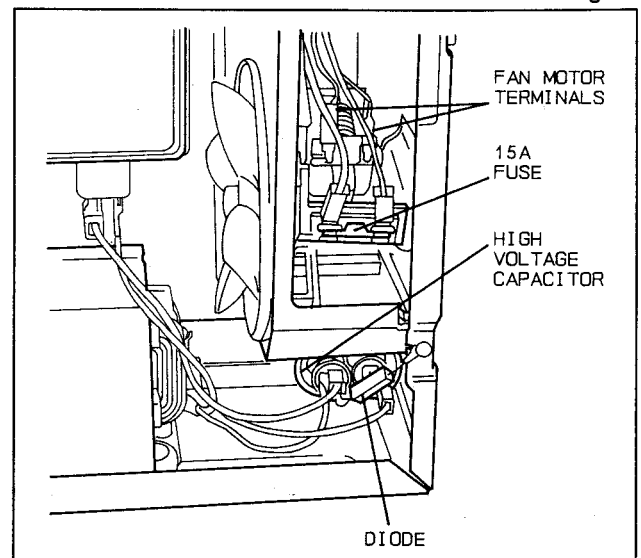

Fig. 17
(A) Disconnect 2 lead wires from fan motor terminals. (Fig. 17)
(B) Disconnect 2 lead wires from fuse holder terminals. (Fig. 17)
(C) Disconnect 4 high voltage lead wires from high voltage capacitor terminals. (Fig. 17)